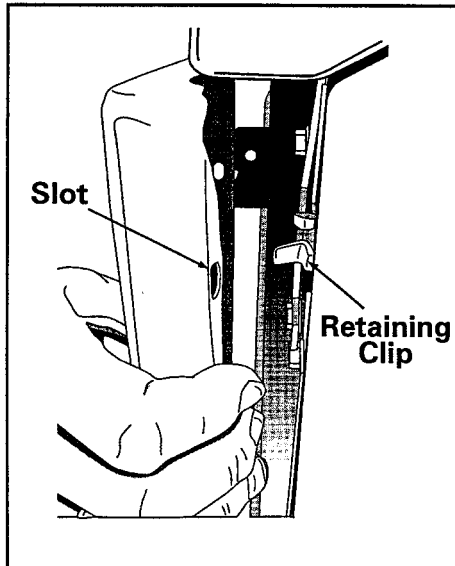

Figure 5-3
2. The front panel is held to the cabinet by means of clips secured to the front shroud. Small slots in the front panel engage the clips and hold the front panel in place. (See Figure 5-3) To remove the front panel, grasp the goal posts of the front panel 3/4 of the way down and pull front panel away from the dryer.